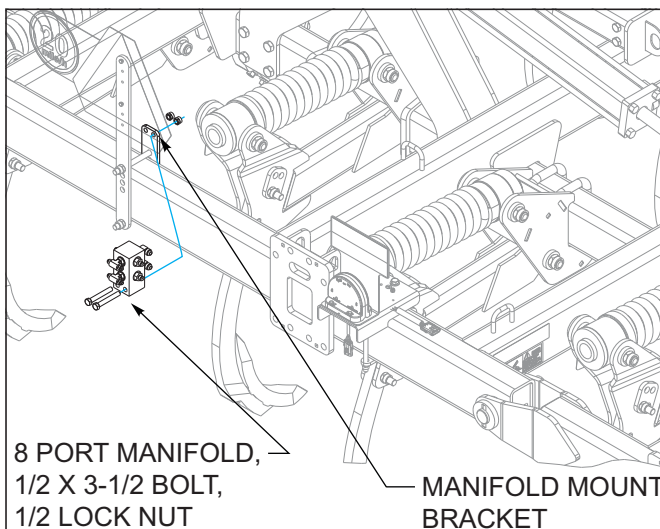

Figure 3-23: 8 Port Manifold Installation
8. On hydraulic 3BDT/Chopper Reel option, install the 8 port manifold to manifold mount with 1/2 x 4-1/2 bolts, 1/2 lock nuts as shown See Figures 3-23.